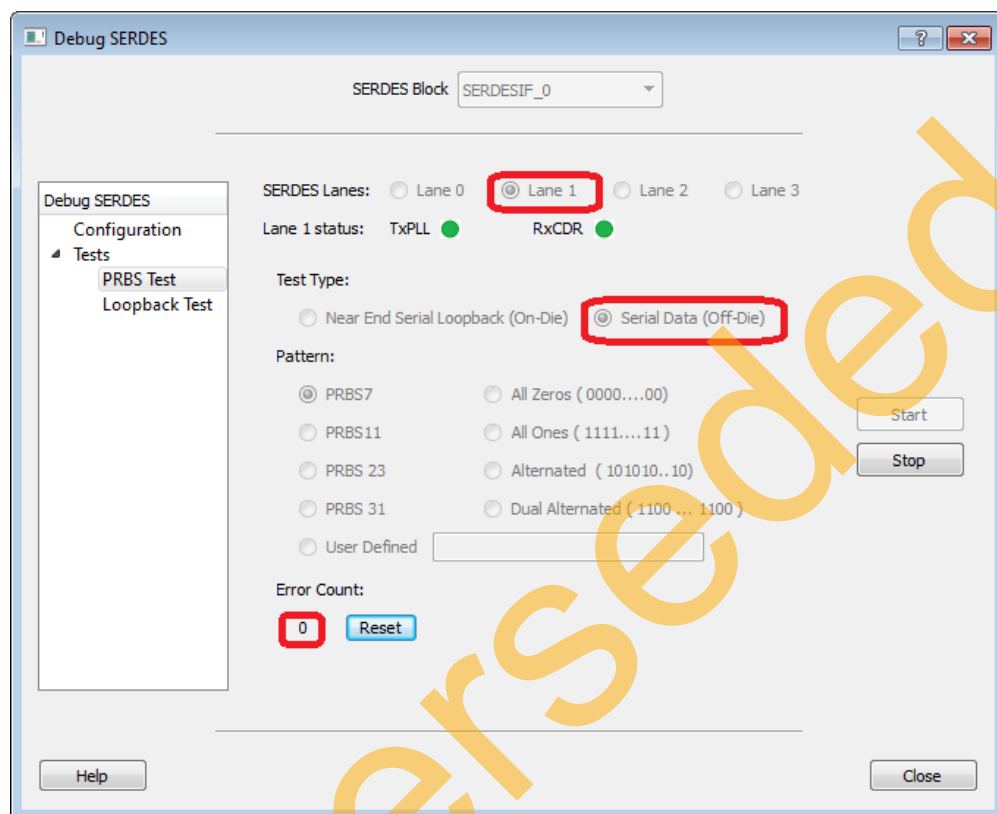

Figure 27 • Lane 1 Transmitting Data Through On-Board Loopback
5. The Evaluation Kit board connects Lane 1 on the PCB to loop back Tx and Rx. This loopback demonstrates a complete path with data being transmitted and received intact. The example demonstrates this, select **Lane 1**, select the **Serial Data test type**, and select **PRBS7 Pattern**. This test will generate and check PRBS7 data going off-chip and folded back on the PCB to the receiver, refer to Figure 27.